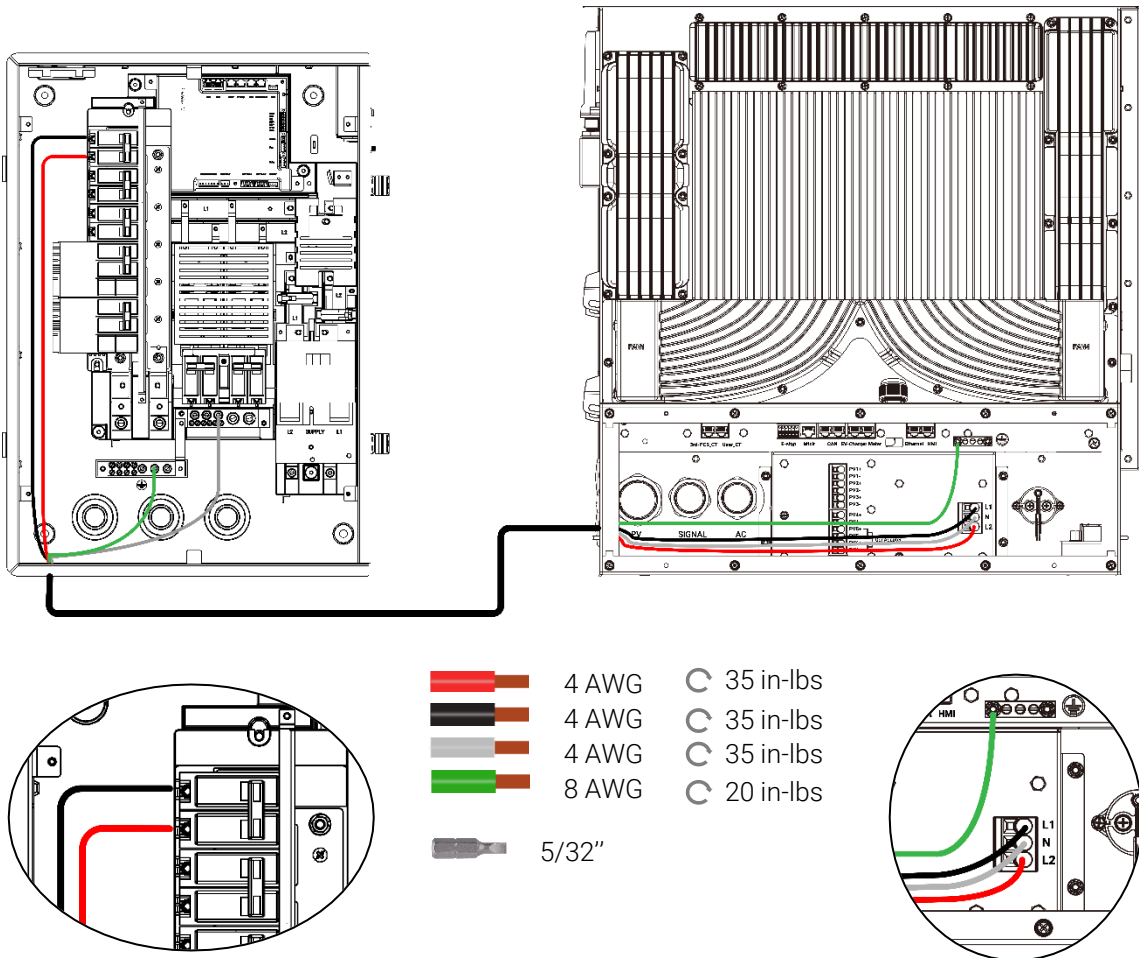

Figure 3. Smart Gateway to Hybrid AC Wiring
- c. Route the Hybrid cables through the conduit to connect it to the Smart gateway hybrid breaker: (Ref. Figure 3)
- Refer to figure 3 for wiring the AC output L1, N, L2, and ground cable between the Hybrid and Smart gateway breaker.